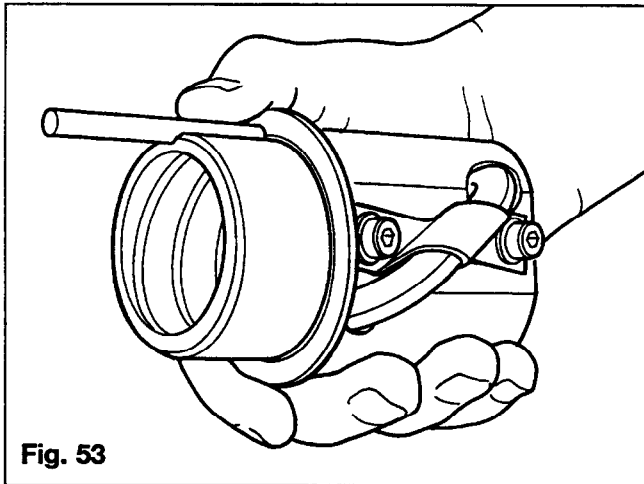

Fig. 53
- 3. Installing New Ball Screw Nut** - To install the ball screw nut, position the washer over the small diameter of the nut. Place pin in position. Align pin with groove in reel and press in the nut. Refer to Figure 53 and 54.